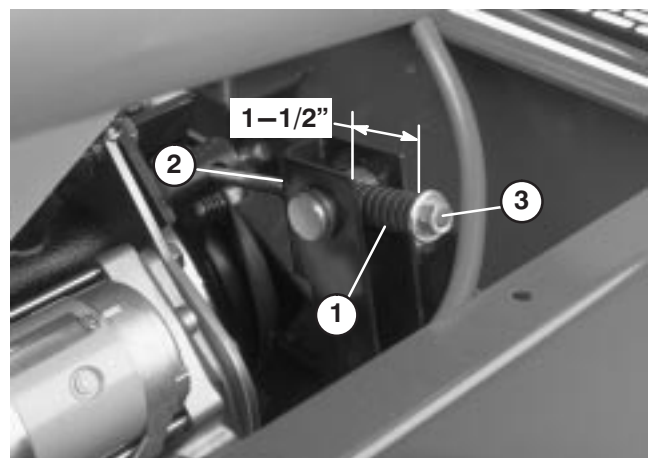

Figure 36
2. Loosen the tensioning rod jam nut (Fig. 36).
3. Use a 1/2" wrench to tighten or loosen the belt tensioning spring (Fig. 36). Adjust spring to a length of 1-1/2" (38 mm).
3. Using a 1/2" wrench, loosen the belt tensioning spring (Fig. 36) all the way.
5. Install the new PTO belt and re-tension the pulley spring to 1-1/2" (38 mm) (Fig. 36).
6. Tighten the jam nut (Fig. 36) and close the hood.